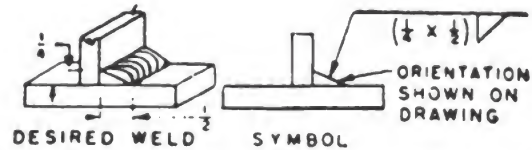

Figure 14-8.—Size of fillet weld having unequal legs.
1. The size of a fillet is shown to the left of the weld symbol. If the fillet has unequal legs, the sizes are shown in parentheses to the left of the symbol. (See figure 14-8.)